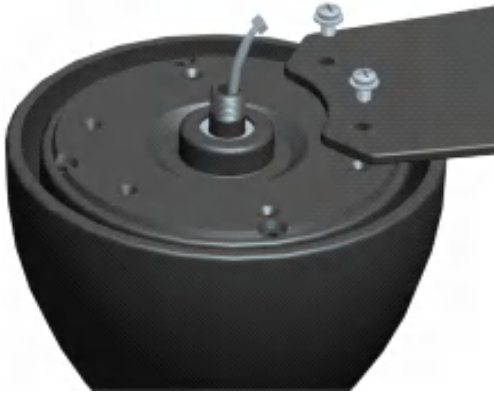

Fig 2.1
2.1 Align two blade holes with the screw holes of the motor head and fasten the blade with the blade screws as shown in Fig 2.1.